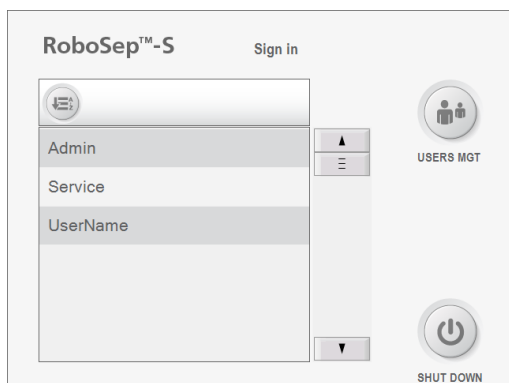

Figure 13. User Selection Screen
3. Once homing is complete, the User Selection screen is visible on the touchscreen (Figure 13).